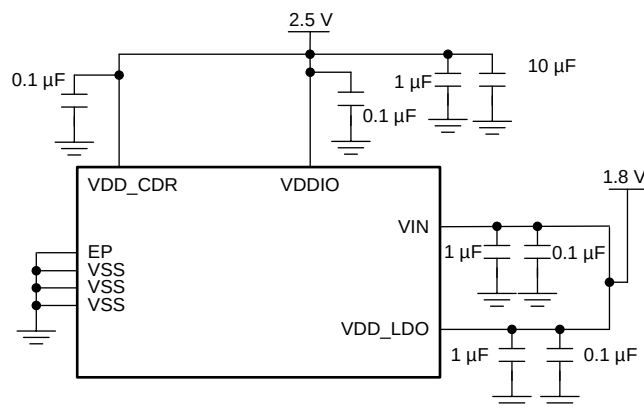

Figure 28. Typical Connection for Dual 2.5 V and 1.8 V Supply
- **Dual Supply Mode (2.5 V and 1.8 V):** This mode provides lower power consumption. In this mode, 1.8 V is connected to both VIN and VDD_LDO. VDD_CDR, and VDDIO are powered from a 2.5 V supply. See Figure 28 for more details.